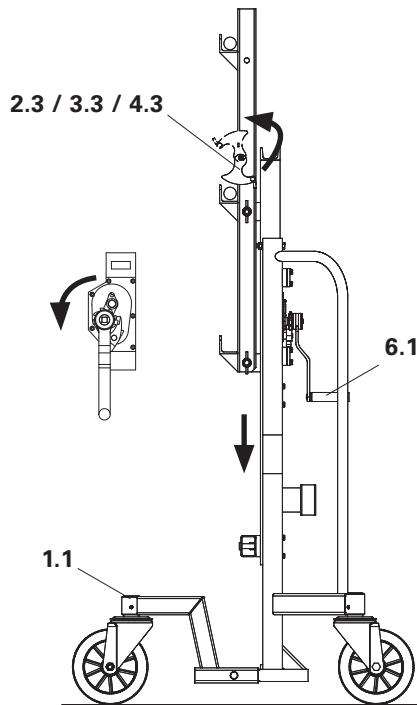

Fig. C4.01
5. Pull out the Trolley with Winch. (Fig. C4.01)